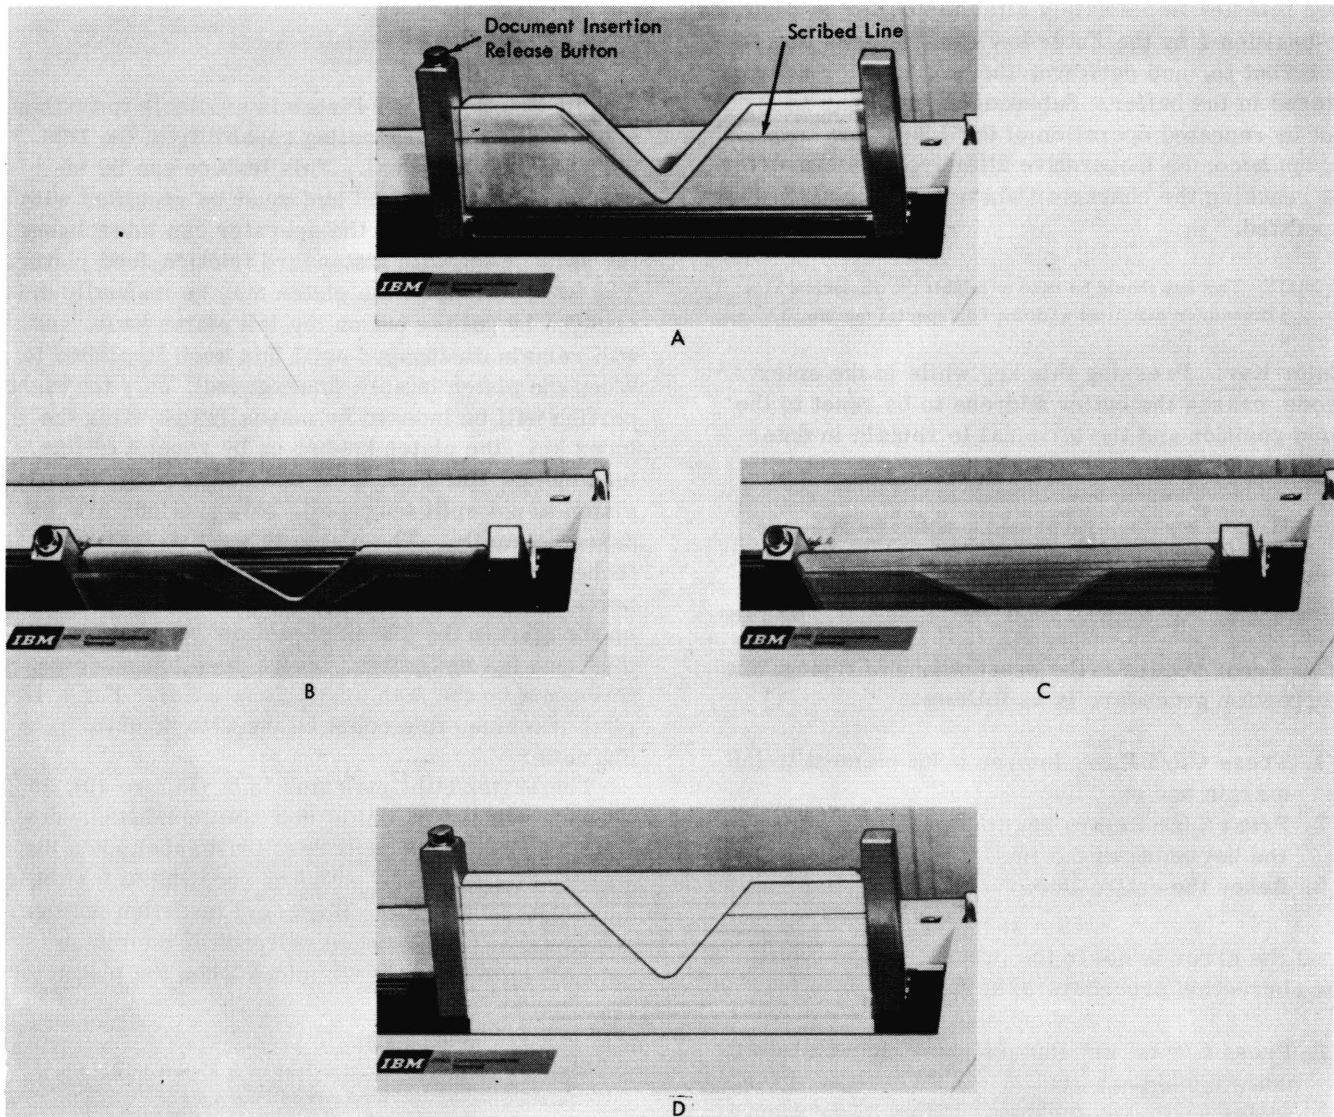

Figure 28. Document Insertion Feature
The Document Insertion feature (Figure 28) enables the operator to easily insert and position individual forms to receive all or a portion of the printed output. A typical application might be printing on a continuous-form journal and simultaneously posting on ledger cards that are manually inserted by the operator. If the terminal is addressed and the Document Insertion device is tilted forward, the terminal responds with an @ (N) response.
The Document Insertion feature provides a means of inserting ledger cards in front of the typewriter platen without using the platen knobs (Figure 28).
| To insert the ledger card, push down on the Release button (Figure 28, Part A) and simultaneously pull the post toward the front of the terminal (Part B).